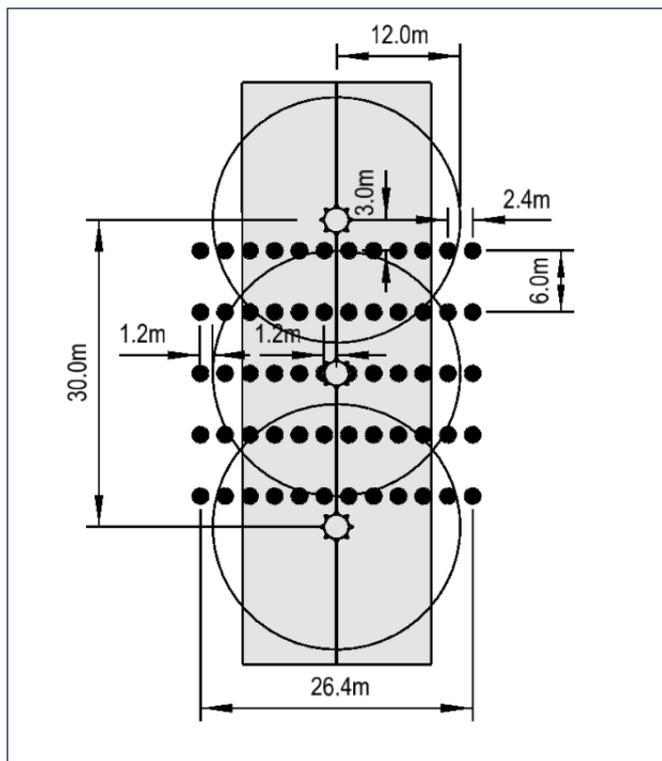

Figure 3.2. Bucket spacing example for a pod system with 15m sprinkler spacings and a 12m throw radius.
4. Arrange a grid of collectors between three correctly functioning adjacent sprinklers along a representative part of the sprayline (Refer to Figure 3.2)